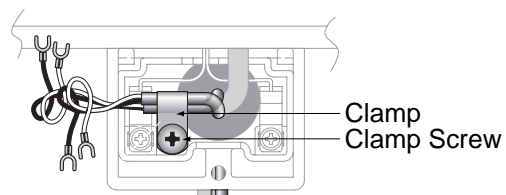

Fig.3
11. Loosen the clamp screw and secure wire cable with clamp. The clamp is in the box with the temperature controller. Make sure the length of the wire is long enough. There should be no tension in the wire. (Fig. 3)